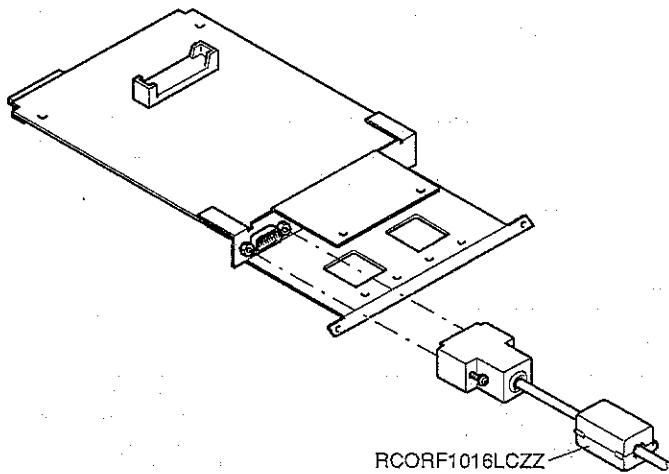

Fig. 1
- Be sure to install the core (RCORF1016LCZZ) on the inline cable. (Fig. 1)
② RS-232C cable